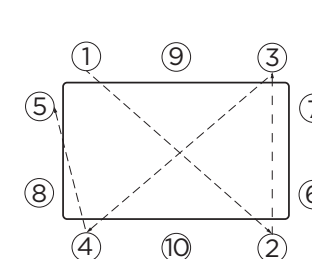

Fig.4
10. Tighten the clips in an order similar to fig. 4 to ensure the sink does not skew or rotate whilst it is being fixed. Do not use an electric screwdriver, this will over tighten the screws and could damage the clips.